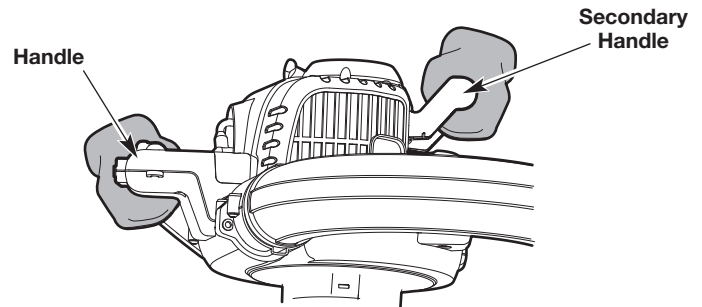

Fig. 17
- Hold the handle firmly with the right hand (Fig. 17). Hold the secondary handle firmly with the left hand (Fig. 17).